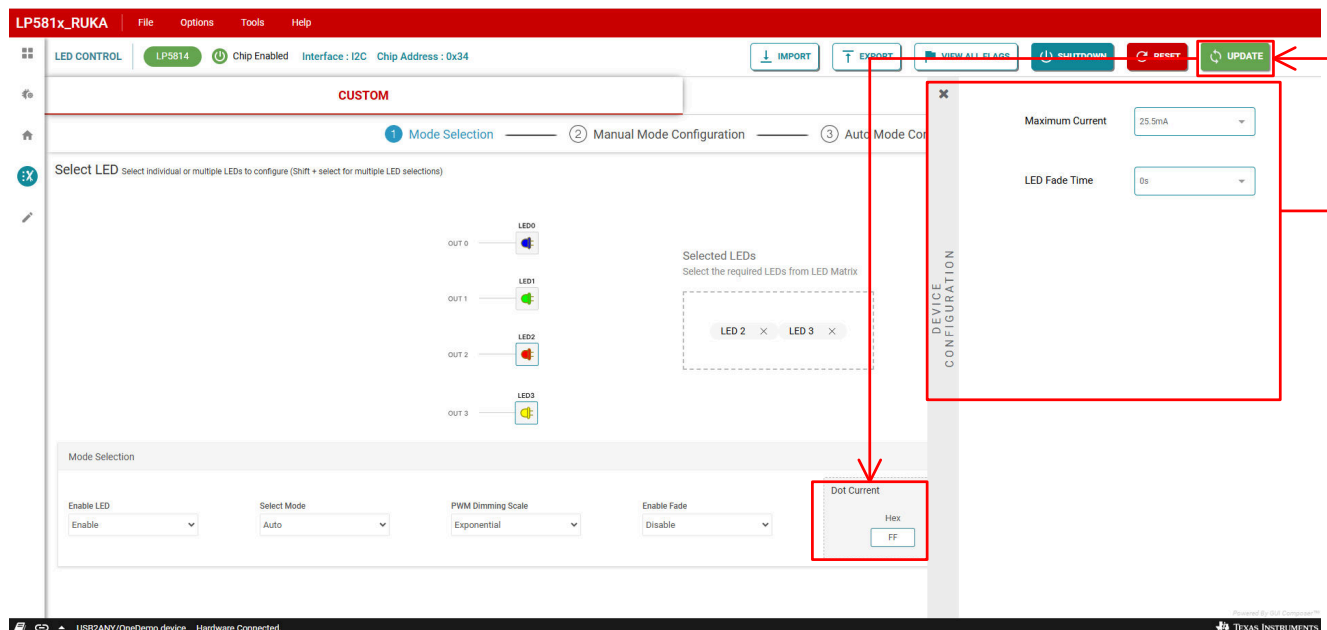

Figure 3-16. Current Set and Update Command Send in Auto Mode
4. Click the *Device Configuration* button on the right side of the *LED Control* page to open the maximum current configure panel as shown in Figure 3-16. Set the MC (Maximum Current) for the selected red LED and white LED through selecting the *25.5mA* or *51mA* item from the *Maximum Current* pulldown menu.
6. Set DC (Dot Current) value for the selected blue LED and green LED through entering the data in the *Dot Current* control as shown in Figure 3-16.